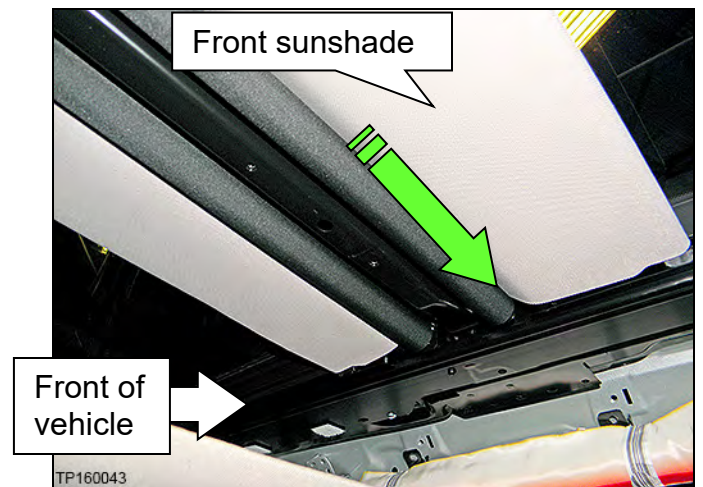

Figure 70
- a. Detach the front sunshade by pulling it toward the left of the vehicle to compress tension spring (Figure 70).